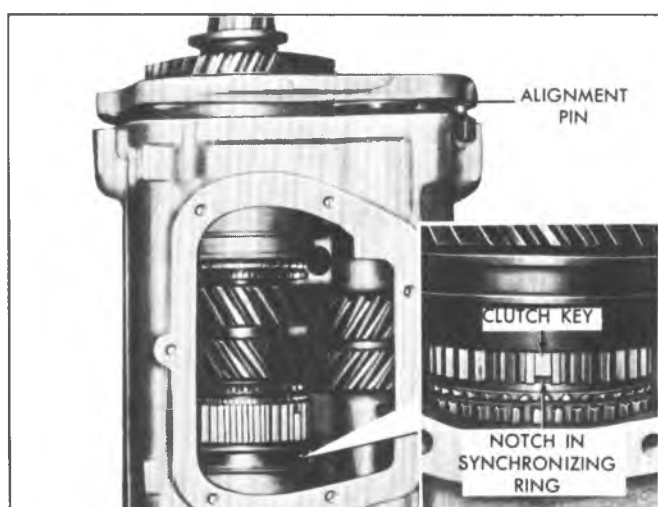

Fig. 18B-Installing Mainshaft Assembly
12. Lower the mainshaft assembly into the case making certain the notches on the fourth speed synchronizing ring correspond to the keys in the clutch assembly (fig. 18B).